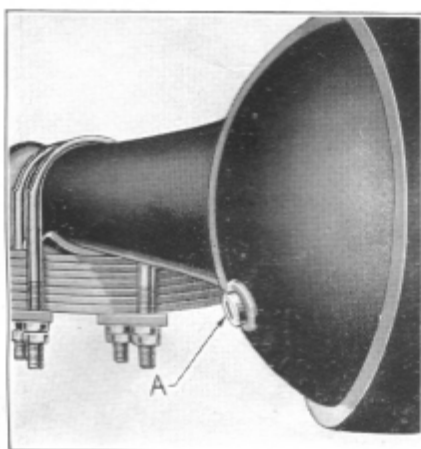

Figure 16
The oil should always be kept to the level of the filler plug (A), Figure 16. Drain the oil and replace with three pounds (or pints) of fresh oil with change of season.